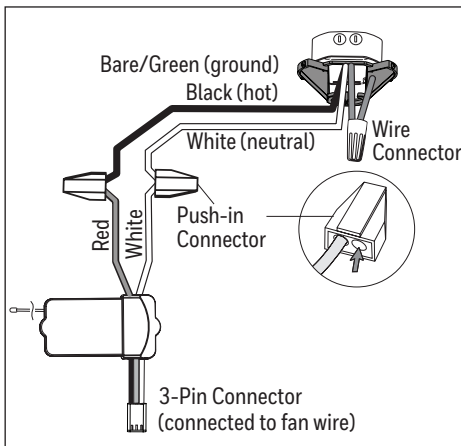

Figure 5.1
1. Use wire connector and push-in connectors to connect the receiver and fan wires to the supply wires from outlet box according to the wiring diagram and the following instructions (Figure 5.1):